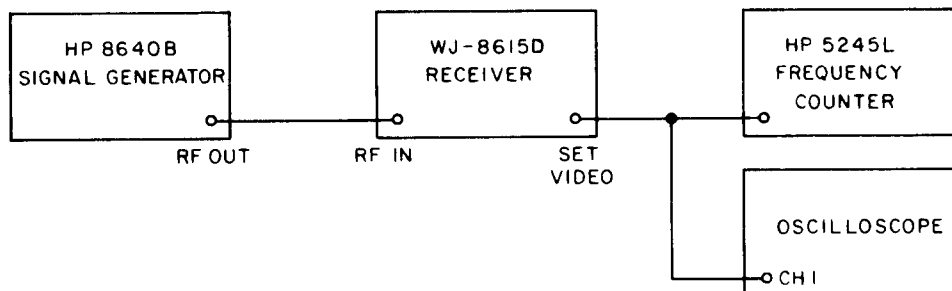

Figure 4-17. CW Demodulator Alignment, Equipment Connections
- 2) Connect the test equipment as illustrated in **Figure 4-17**.